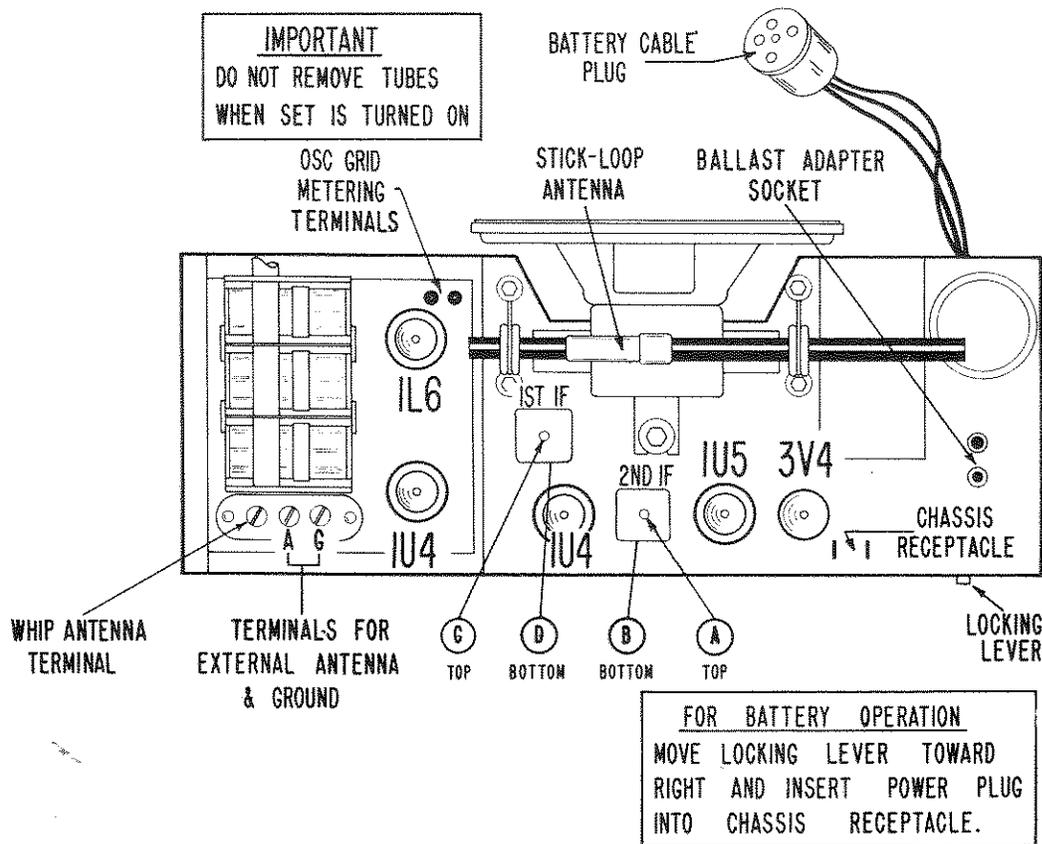

Fig. 6. Top View of Chassis Showing Location of Alignment Adjustments and Tubes
4. POWER CHANGEOVER SWITCH S-2 SHOWN IN AC/DC POSITION. FOR BATTERY OPERATION, INSERT LINE CORD PLUG INTO CHASSIS RECEPTACLE (SEE FIG. 6).